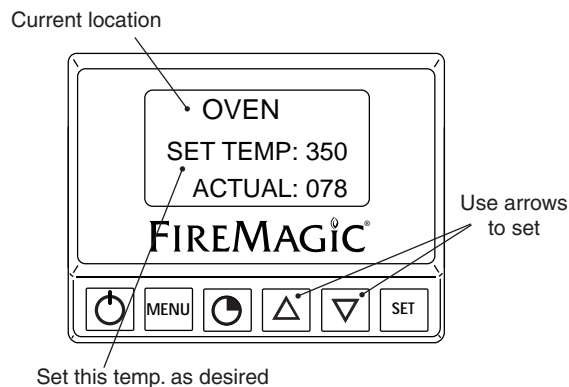

Fig. 27-1 Area temp. screen (oven shown)
2. The selected location's temperature screen will be displayed. Use the arrows to set the desired temp. The actual temp. will also be shown (see Fig. 27-1).